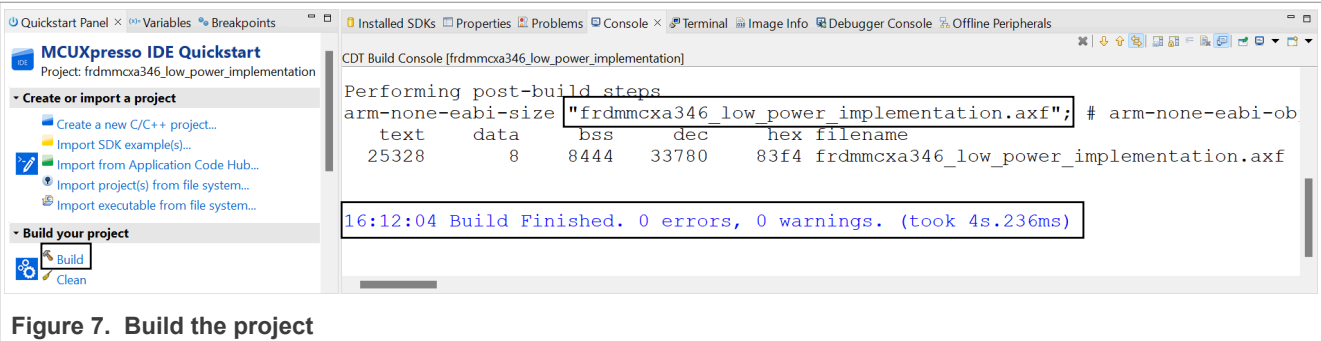

Figure 7. Build the project
- 1. Click **Build** button from the toolbar, then wait for the build to complete as shown in Figure 7.